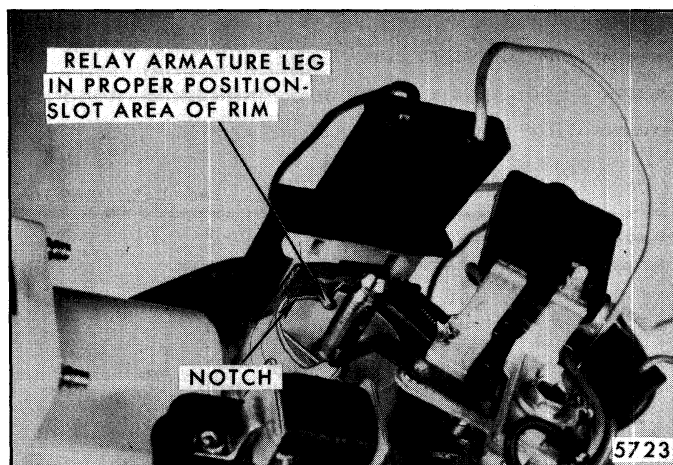

Fig. 2-118-Pump in Idling Position
1. A leg on the relay armature rides up a ramp located on the outer surface of the ratchet gear rim. When the leg reaches the top of the ramp, it moves over the top edge of the ratchet gear rim. This action allows the ratchet gear pawl to re-enter the armature opening preventing further rotation of the ratchet gear until the next time the relay coil is energized from the washer button. (Refer to Figure 2-118 for position of armature leg while pump is idling.)